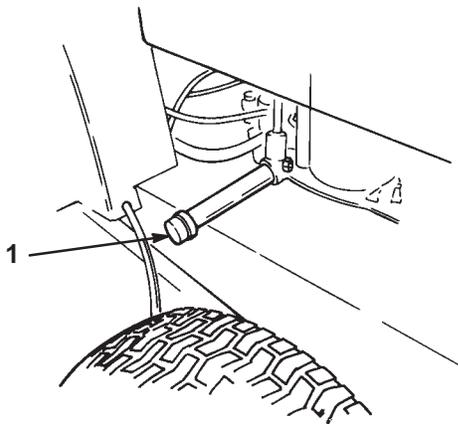

Figure 11
- Place drain pan below drain plug (Fig. 11). Remove drain cap. Allow all oil to flow into drain pan. Reinstall drain cap after oil stops flowing.